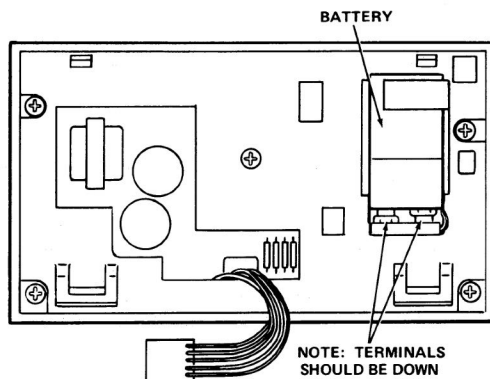

Fig. 3
STEP 2. An optional 9 volt alkaline battery may be installed as shown (Fig. 3). It is not required for proper thermostat operation. The thermostat will display time and temperature (starts at 12:00 pm). Battery should be installed with terminals down (Fig. 3).